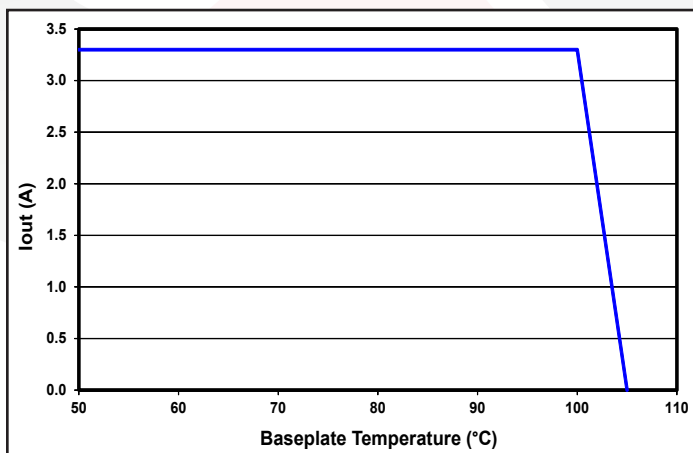

Figure 5: Maximum output current vs. baseplate temperature (nominal input voltage.)
**THERMAL CONSIDERATIONS:** The maximum operating baseplate temperature,  $T_B$ , is 100 °C. Refer to the thermal derating curve, Figure 5, to see the available output current at baseplate temperatures below 100 °C.